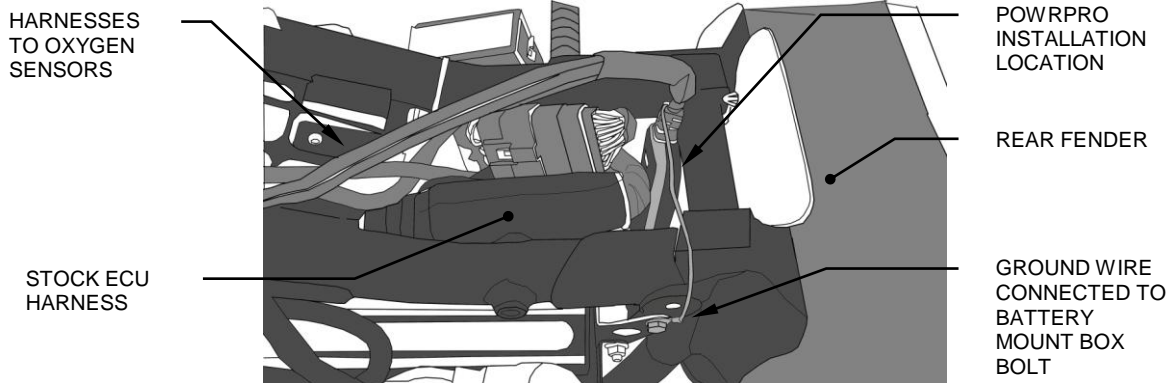

FIGURE 6
8. Place Powrpro Tuner™ (PPT) module on top of motorcycle frame in under seat area, Figure 6.
15. Locate the hex bolt mounting the upper rear portion of the battery tray and remove it. Insert the hex bolt through the PPT ground terminal and reinstall securely, see Figure 6.
18. Remove the backing from the Velcro and place the PPT case between rear frame rail and large ECU wire harness in center of bike, Figure 6.